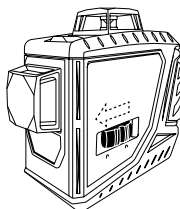
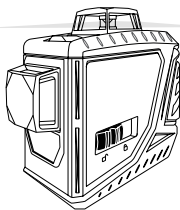

FIGURE 4
FIGURE 5
- To turn the instrument on, slide the power / locking switch to the "unlocked" position (Fig.4). Self levelling will commence and the horizontal beam will activate (Fig.5).